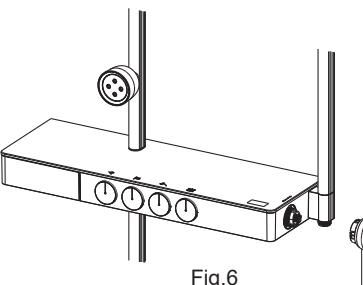

Fig.6
拆卸前确保温控把手(30)上的按钮垂直朝下。卸下温控把手(Fig.6)。
不要转动温控阀轴，安装温控把手(30)，使温控把手上的按钮垂直朝下(Fig.6)。
Before your action, ensure the button on the temperature handle(30) is downward vertically. Remove the plug(30). Take out the temperature handle(Fig.6).
Do not turn the cartridge spindle. Install the temperature handle(30). Make sure the button on the temperature handle is downward vertically(Fig.6).